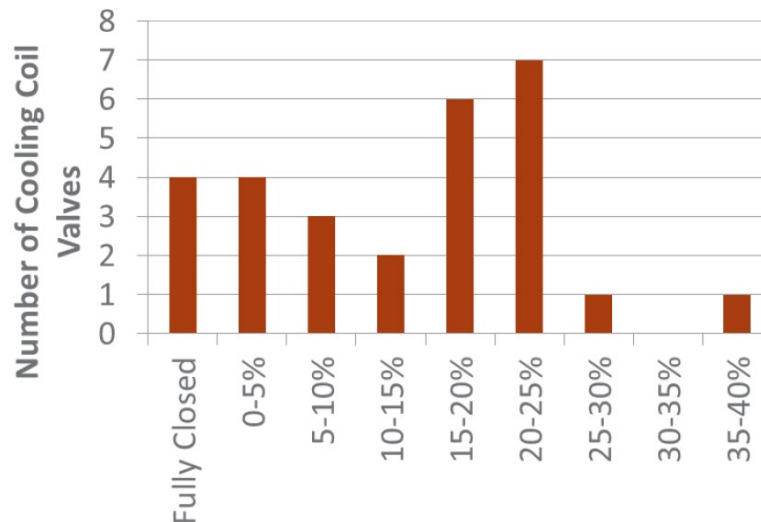

Figure 5. AHU cooling coil valves through the building on a cold (10°F) day
- Figure 5 shows AHU cooling coil valve positions with the AHUs supplied by a DOAS on a 10°F day, with a 55°F DOAS SAT setpoint.